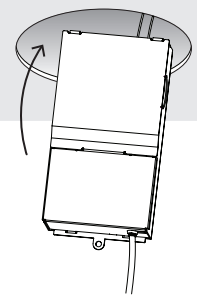

Figure 2
5. Insert hardwire box through the mounting hole. (Figure 2)